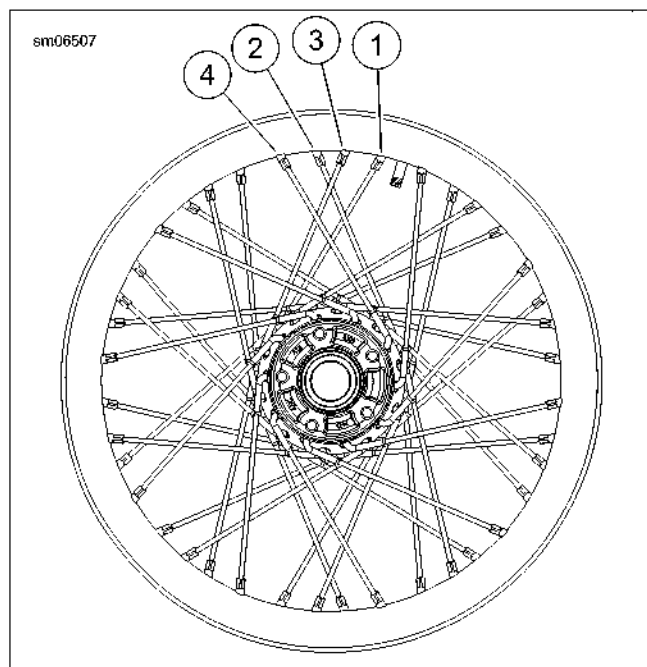

Figure 1-12. Tightening Laced Wheels (typical)
2. See Figure 1-12. Starting at the valve stem, identify the first group of four spokes (1-4).
1. See Figure 1-12. Starting with the first group of spokes, loosen spoke (1) 1/4 turn using SPOKE NIPPLE WRENCH (Part No. HD-94681-80).
2. Using SPOKE TORQUE WRENCH (Part No. HD-48985) tighten spoke (1) to the value listed in Table 1-9.
3. Repeat previous two steps for spoke (4) in the same group.